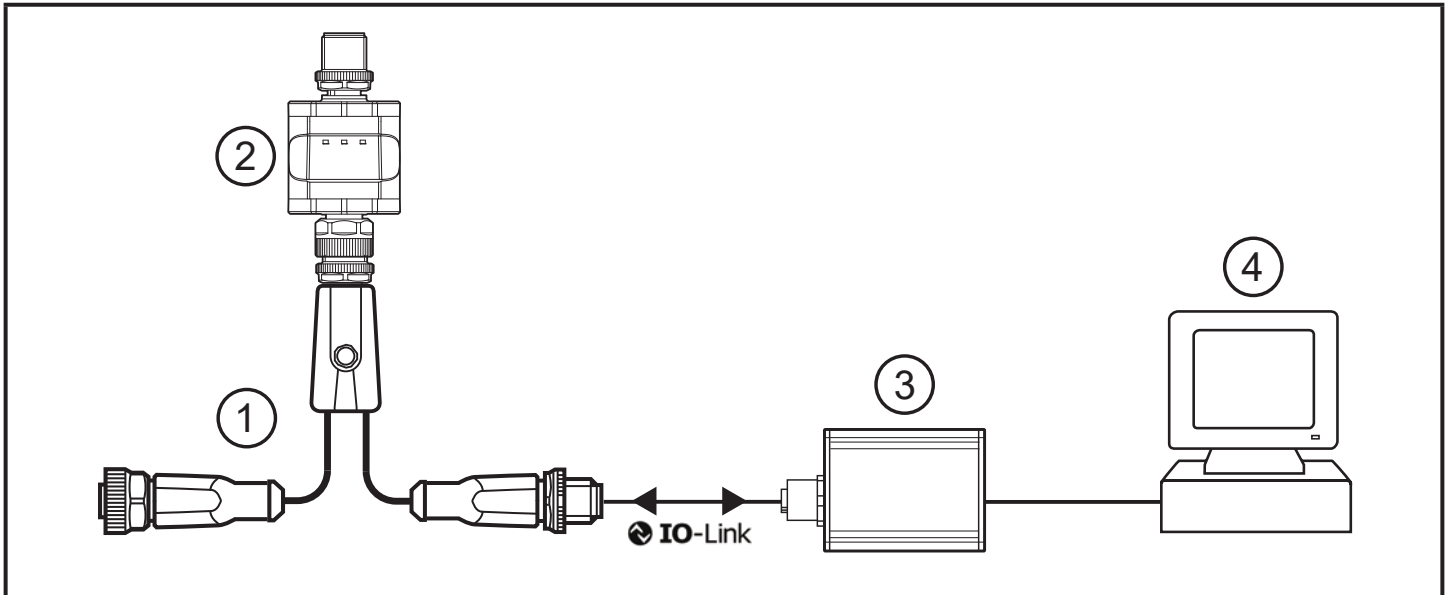

Fig. 8.1: Connection for parameter setting
- ▶ Connect and configure the device according to fig. 8.1 (→ 8).
For operation on an IO-Link device that does not support the automatic output configuration (→ 9.1) or if for example write protection is to be removed the device must first be configured. To do so, the device has to be connected according to fig. 8.1.